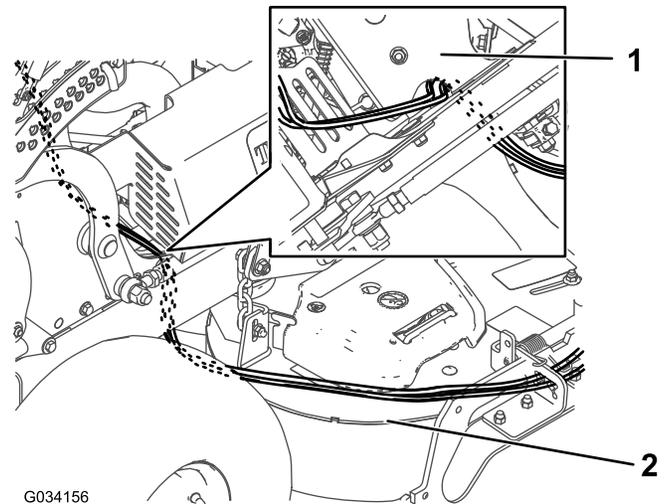

Figure 6
2. Route the cables through the engine plate and across the mower deck as shown in Figure 6.